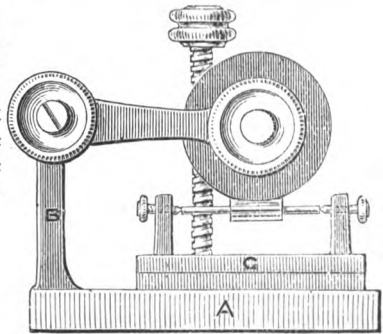

Fig. 4.
tuated by a "Wig Wag" if it has a to-and-fro motion. Pinions may also be polished by means of a rotating willow cylinder carried between two arms pivoted to a frame (A B, Fig. 4). A slide rest (G) holding the pinion between centres is set under the roller, not exactly at right angles to it, but sufficiently askew to cause the pinion leaves to cut a screw in the cylinder, which then rotates the pinion. During the operation the slide rest is worked to and fro. There is an adjusting screw to keep the roller from going too low.